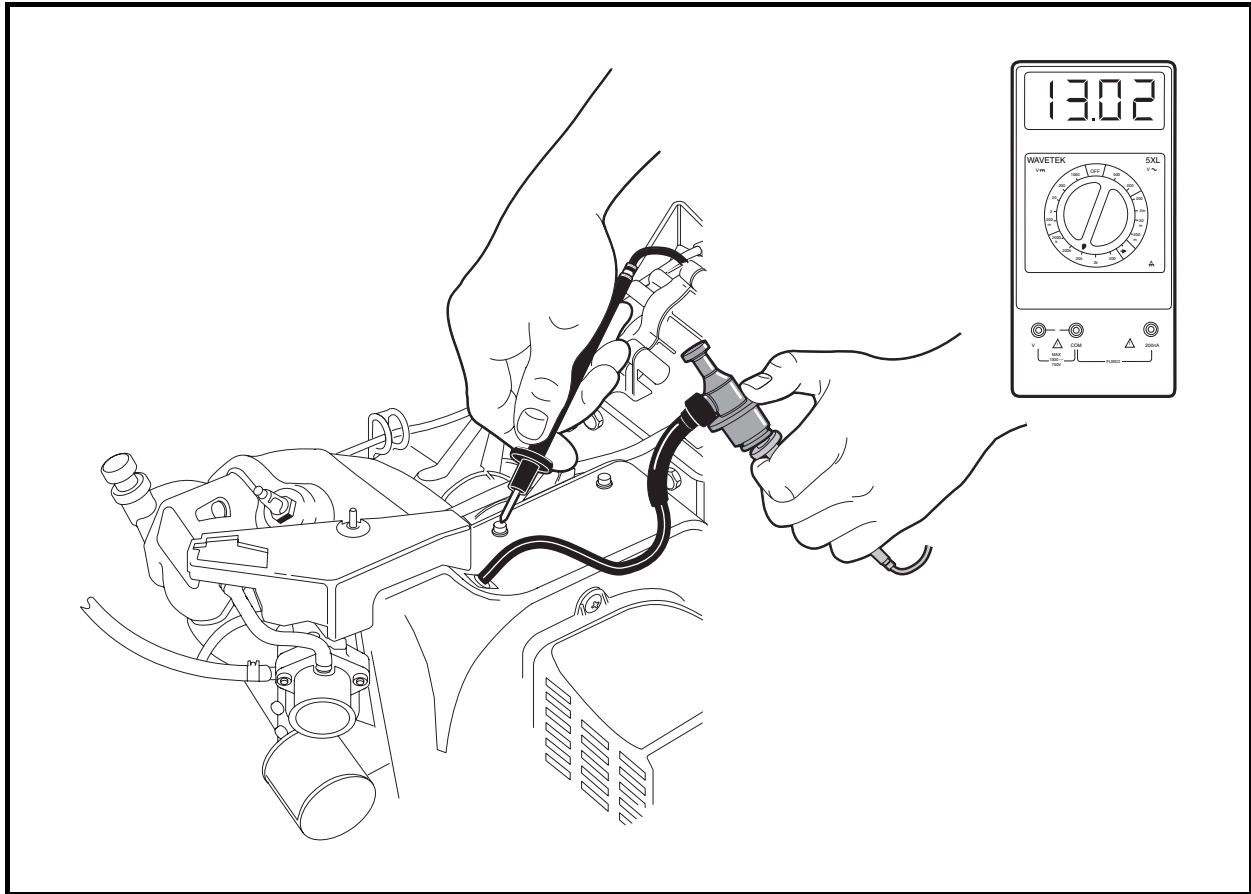

Figure 11-43 Secondary Coil Test – In Vehicle Test
- 4.1. Place the red (+) probe of the meter into the end of the spark plug cap that normally connects to the spark plug and place the black (–) probe on a clean unpainted surface of the engine or frame (**Figure 11-43, Page 11-36**).